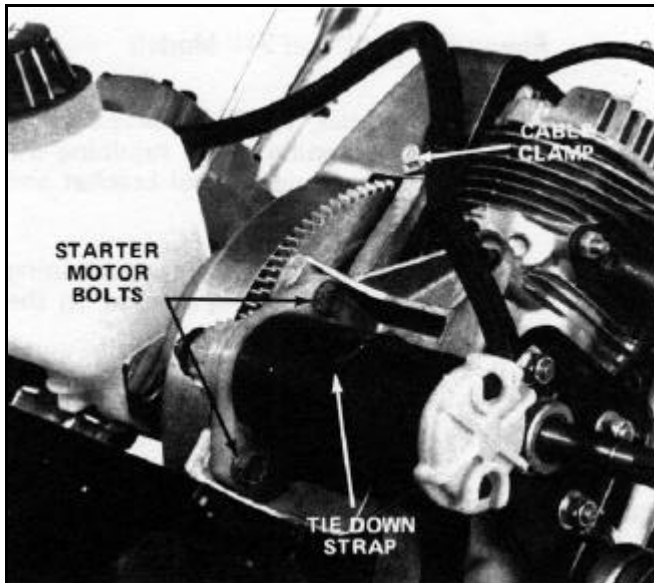

Figure 36 0217-019
11. If your 20" Snowthrower is equipped with an electric starter, remove the bolts retaining the electric starter to the engine mounting bracket (Figure 36). Also, remove the bolt and cable clamp retaining the wire harness to the engine. Finally, remove the motor tie down strap.